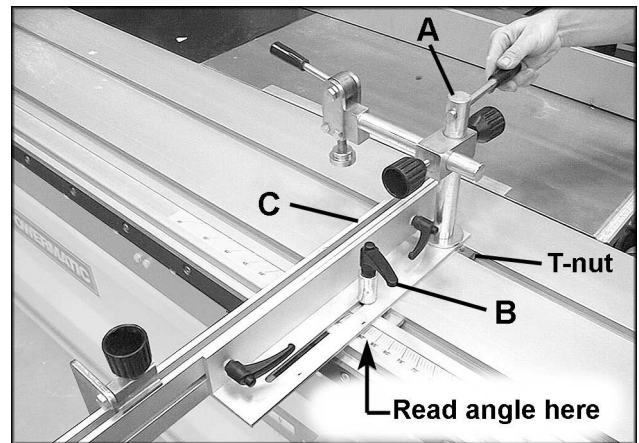

FIGURE 29
1. To set the required angle, unlock the rod of the clamp (A-Fig. 29) with the provided tool, and loosen the handle (B-Fig. 29).
2. To slide the fence (C-Fig. 29) toward or away from the saw blade, loosen the two smaller handles (D-Fig. 29).
3. Reading the angle is done at the edge of the aluminum bracket. An adjustable stop can be mounted to the miter fence as shown in Figure 29, for making multiple cuts of the same length.